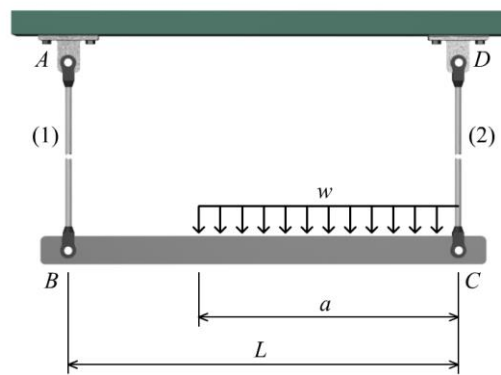

FIGURE P1.10
P1.10 The rigid beam BC shown in Figure P1.10 is supported by rods (1) and (2) that have diameters of 0.875 in. and 1.125 in., respectively. For a uniformly distributed load of $w = 4,200$ lb/ft, determine the normal stress in each rod. Assume $L = 14$ ft and $a = 9$ ft.